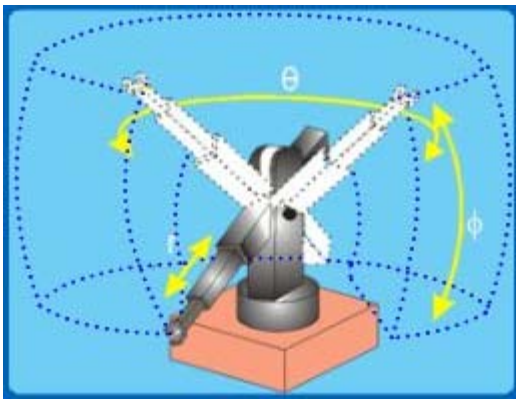

Figure 3.2.3 -Spherical Main Body
- Spherical main body (RRP - Figure 3.2.3)